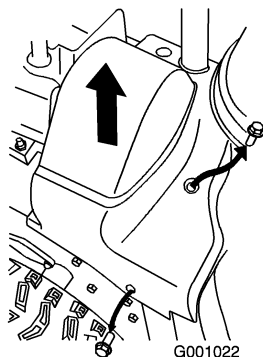

Figure 38
2. Lift up the right side of the belt cover (Figure 38).